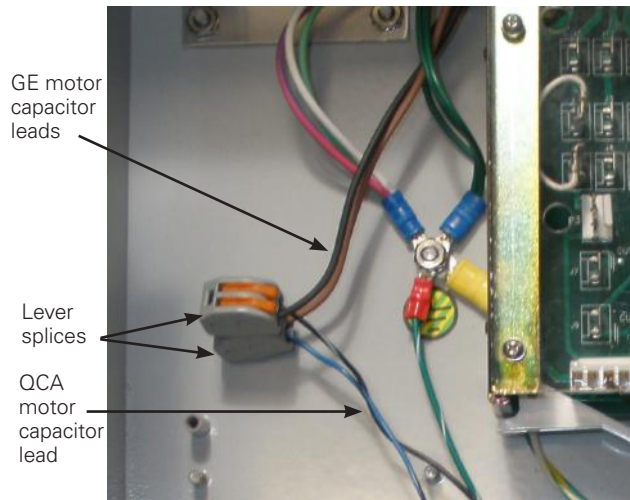

Figure 42. Connecting GE motor capacitor leads to locate capacitor in new control box.
- Using one of the 2-position lever splices, connect one capacitor lead from the conduit to either of the motor capacitor leads from the pin terminal wire harness. Repeat the connection for the remaining set of capacitor leads. See Figure 42.